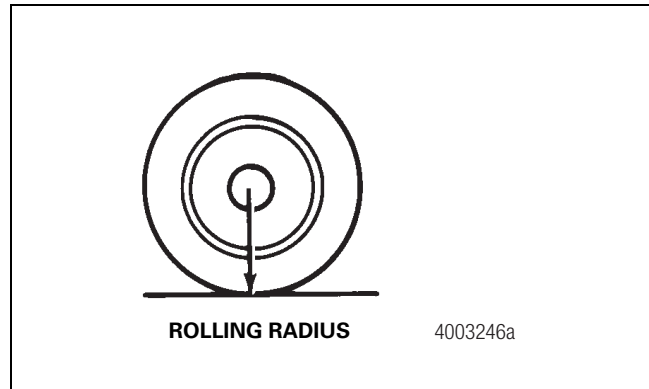

Figure 8.2
- The rolling radii of a set of dual tires on a wheel end not matching within 0.125-inch (3.1 mm). Figure 8.2.